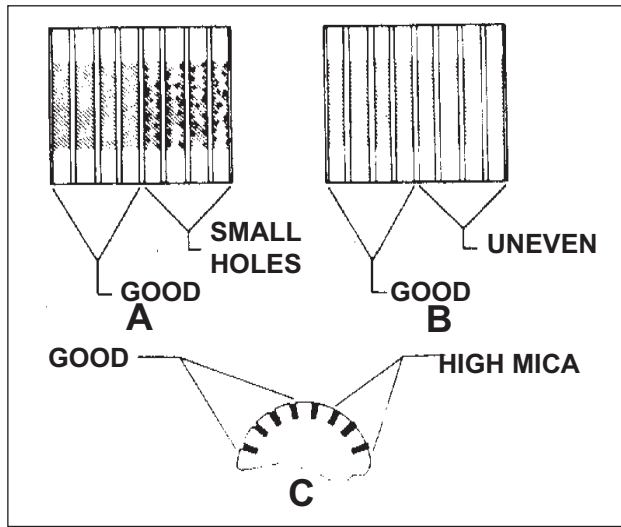

Figure 6
- 1.) Small holes in the surface of the commutator. See Figure 6 "A".
- 2.) Uneven color. Look for an even dark brown color. Clean areas or very dark areas indicate a problem. See Figure 6 "B".
- 3.) High mica. The mica insulation must be lower than the commutator bars. See Figure 6 "C".